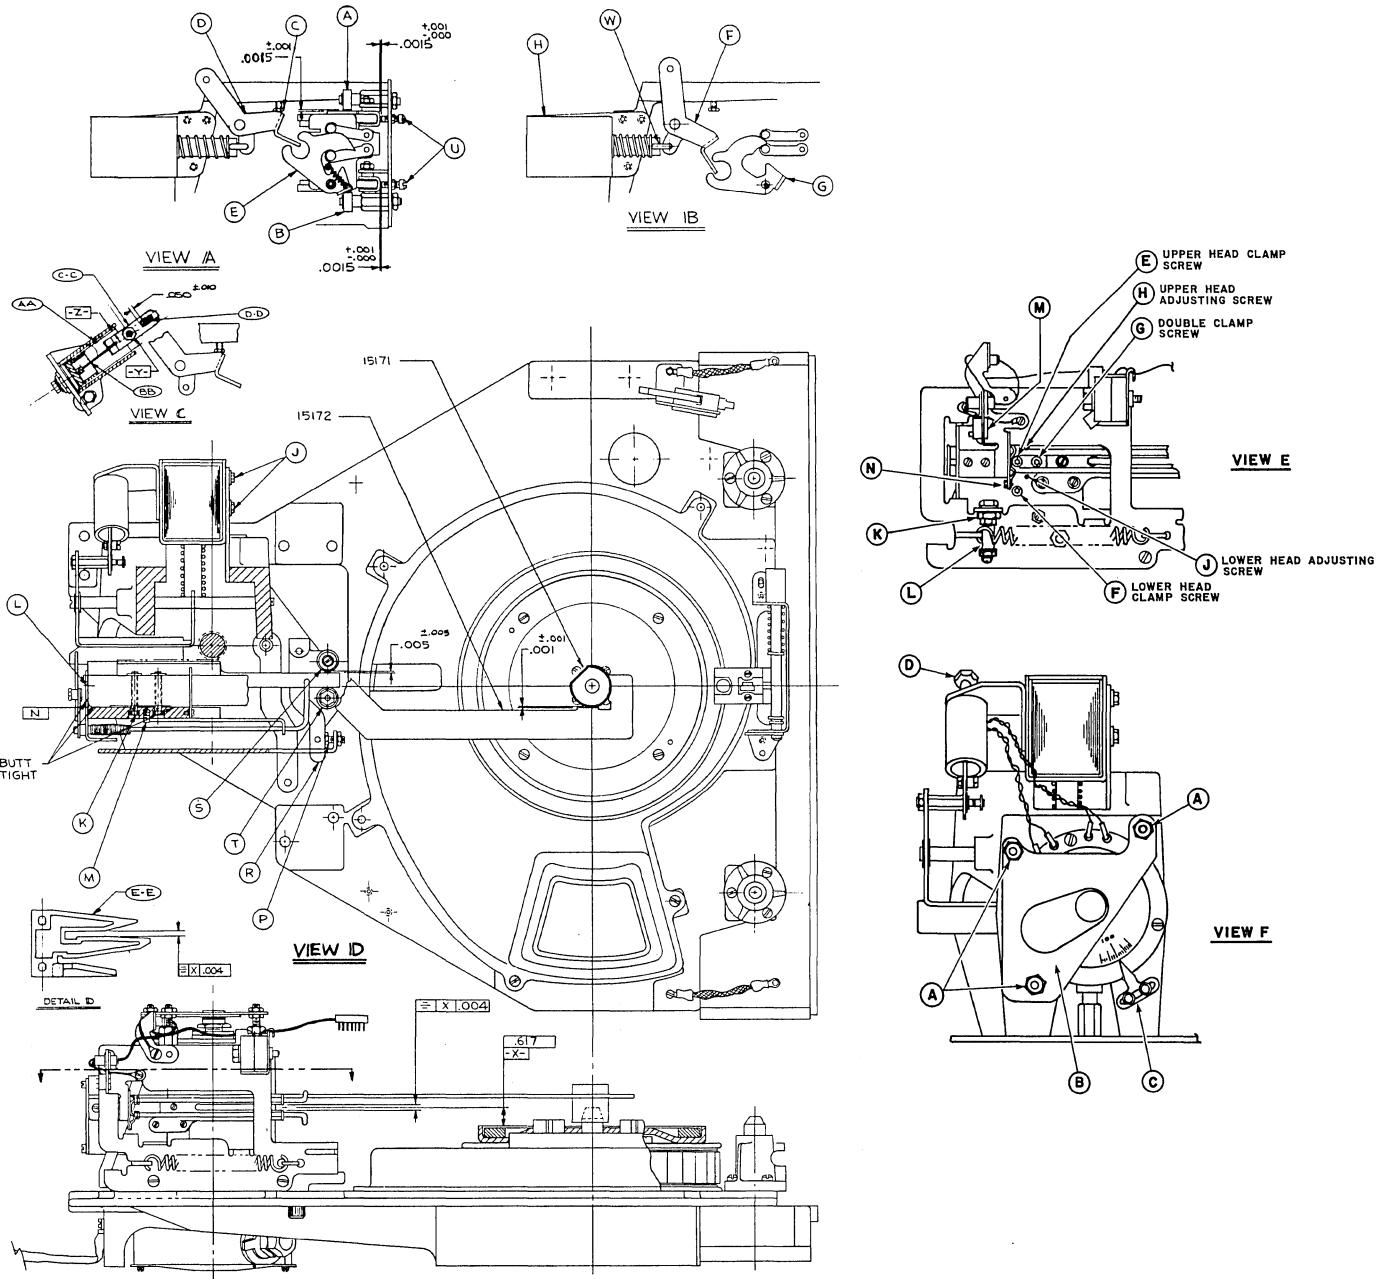
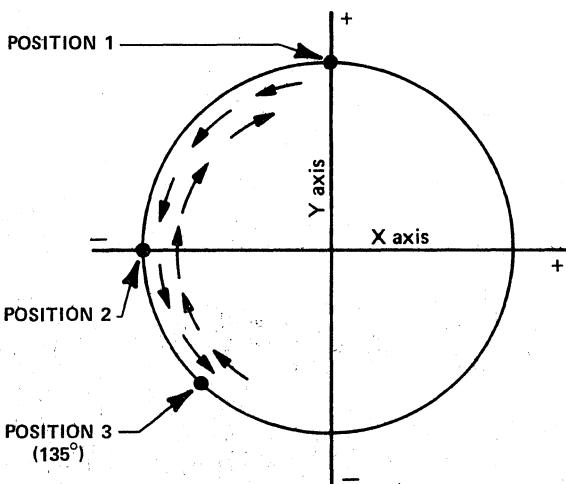

Figure 5-8 HEAD POSITIONER ADJUSTMENTS
Figure 5-13 TRACK "0" STOP ADJUSTMENT PATTERN
Refer to Figure 5-8. Note that it may be necessary to remove the Cartridge Receiver to gain access to eccentric "T" for the adjustment in Step # 11.
3. A 15 volt p-p sine wave should be seen on the oscilloscope. If not, loosen upper nuts "A" (Figure 5-8, View F) and rotate the transformer mounting plate until a signal of 15 ± 1 volts p-p is observed. Retighten the nuts.
3. Depress the Servo Release Switch (see Figure 5-5), and manually rotate the head positioner. The scope trace should be a lissajous pattern which in this case assumes a circular trace, as depicted in Figure 5-13.
4. Manually rotate the head positioner fully clockwise to retract the head carriage as far as possible and release the Servo Release switch. The cylinder pointer (Figure 5-8, View F, Item C) should indicate Track "0". Using the scope's Horizontal Position control, center the dot on the top portion of the display "Y" axis, shown in Figure 5-13 as Position 1.
5. Depress the Servo Release Switch and, with slight pressure, force the head positioner against its rear (crash) stop. Adjust eccentrics "K" and "L" (Figure 5-8, View E), so that the scope trace comes to rest within Position 2 of Figure 5-13, but not past it.
threaded screw hole (see Figure 5-8, View E), and turning it in against a diagonal surface on the edge of the head support arm. This will move the head assembly toward the spindle ONLY. If the head is moved too far, the screw must be removed, the head clamps loosened, and the head moved rearward to begin again. As the head is moved toward the spindle by the set screw, it will approach the pre-recorded alignment track (cylinder 100 or 105 as described above). Standard Density machines read track 100 with the erase coils, while High Density machines read track 105 with the read/write coils. The head is correctly adjusted when an equal portion of the eccentrically recorded track is read by each half of the winding. See Figures 5-10, 5-11 and 5-12, all of which depict 0% error in head adjustment.
11. Following adjustment, the head clamps must be torqued down. Refer to Figure 5-8, View E. A torque of 50 inch/ounces shall be applied to the double (common) head clamp "G", while a torque of 26 inch/ounces shall be applied to single head clamp "E" and/or "F".
1. Refer to Figure 5-8, View E. Raise the Electronics Frame into the service position to gain access to the rear of the Head Positioner through the Heat Sink, and loosen the head plug cable clamp "N".
6. Refer to Figure 5-8, View F. Turn dashpot adjustment screw "D" until the data signal appears 140 ± 40 milliseconds after the start of the sweep. Lock screw "D" with a drop of adhesive (Diablo # 70226) when the adjustment is completed.